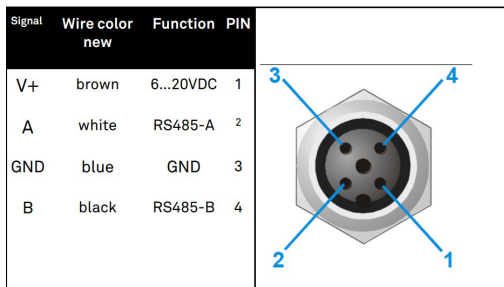

Figure 1 4-pin M12 version
- NOTE: * M12 4-pin Version (Figure 1)**